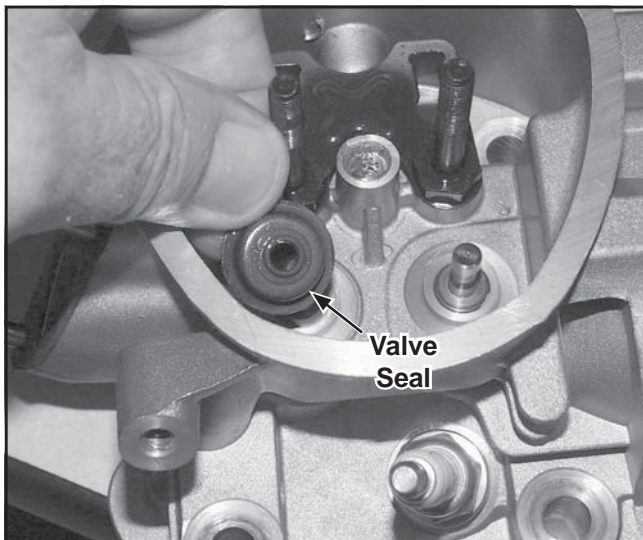

Figure 9-35. Removing Valve Stem Seal.
2. Remove and replace the valve stem seals whenever the cylinder head is serviced or disassembled. See Figure 9-35.